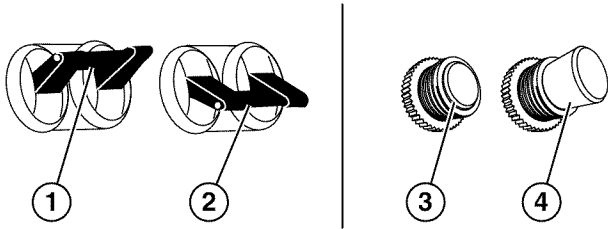

Figure 26 – Circuit Breakers
2. Make sure the circuit breakers are properly set (see *Figure 26*).